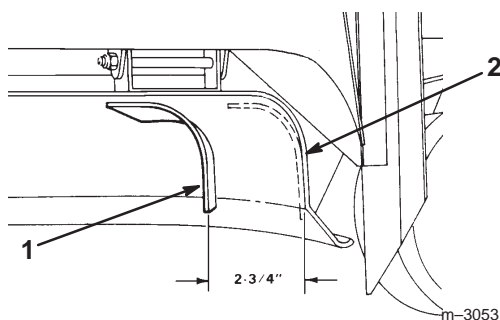

Figure 2
1. Position the appropriate baffle inside the cutting mower opening so the end is aligned with the edge of the mower opening and is against the front wall and ceiling in the storage position (Fig. 2)
6. Secure the end of the baffle closest to the opening in the bagging position with a screw (5/16 x 3/4 inch) (Fig. 2).
5. Remove the baffle screw closest to the opening in the mower (Fig. 2).
6. Pivot the baffle to the storage position and secure it with the screw (Fig 2).